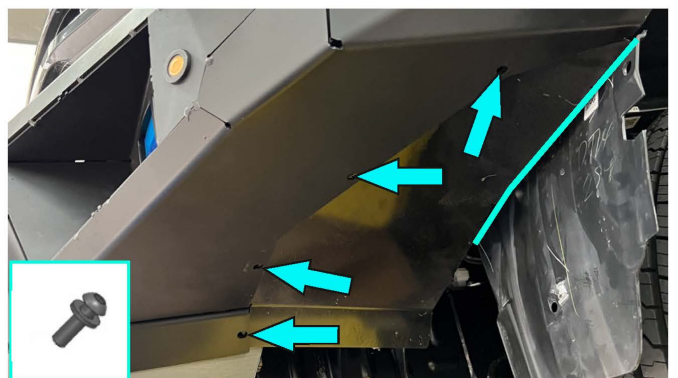

Fig.59
59. Install flaps (item 28, 29) using screws M6x20, washers 6 (item A, H) onto the bumper body on each side. ***Tighten hardware after that.** Push the flap to plastic fender and mark future cutting line. Cut plastic fender following marked cutting line using jig-saw or shears (fig. 59).